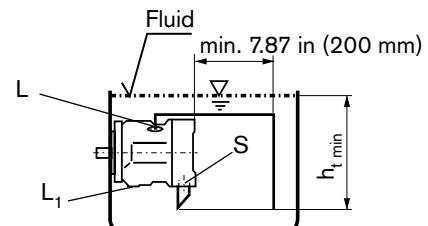

Fig. 3
a) If the min. fluid level is above the top of the pump: plug port "L1", "L" and "S" open; it is recommended to pipe "L" and connect a suction pipe to "S" (see fig. 3).